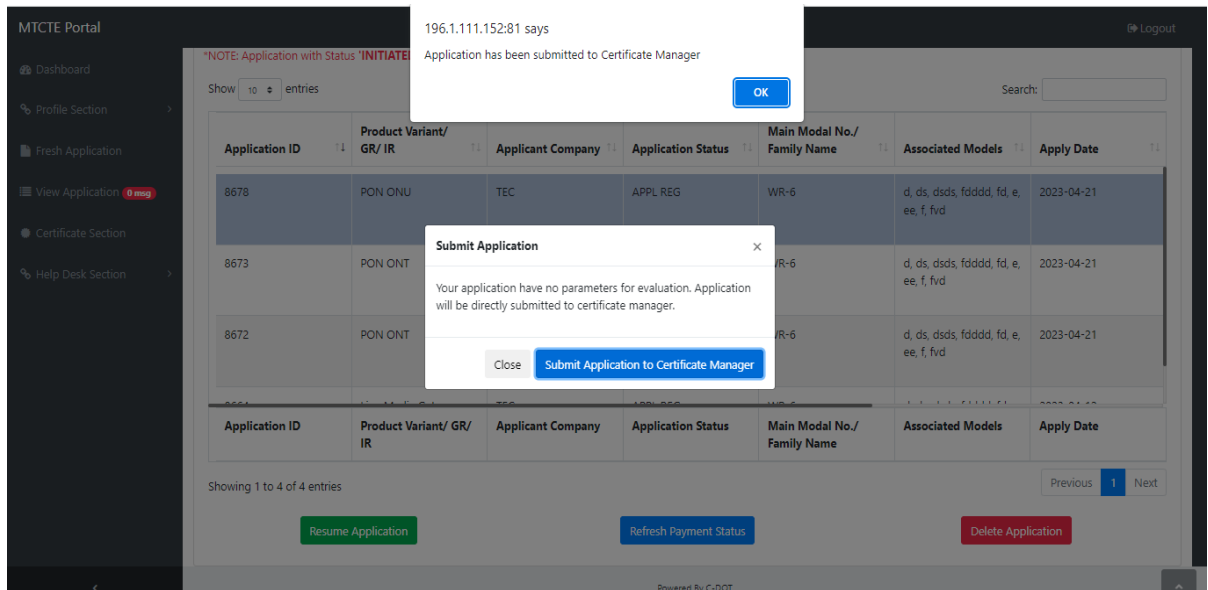

Fig. 35: Resume Application
- e. Select the newly generated application and click on **Resume Application**. A popup will appear, click on **Submit Application to Certificate Manager** (Fig. 35). Again a popup will appear indicating Application has been submitted to Certificate Manager.